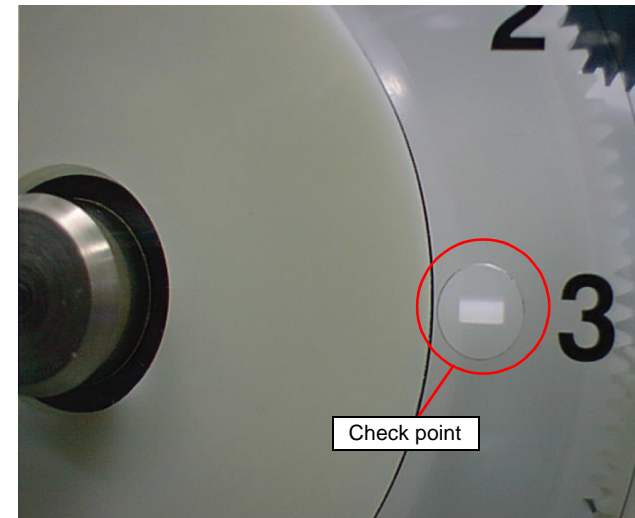

Figure 5-57. Checking the PF Loop scale sticking condition
- Check the two protrusions on the Gear 76 is sticking from the small circled cut off holes of the PF Loop scale. Refer to Figure 5-57.